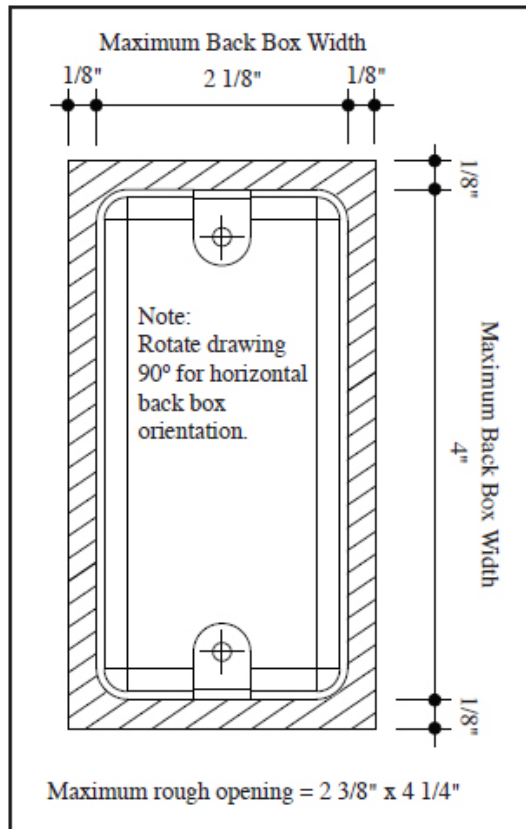

Figure 5
1. Verify that the dimensions of the back box opening do not exceed the maximum dimensions shown in Figure 5. If they do, the back box will not work with the WayGlo faceplate. Either replace the back box with one of the optional back boxes mentioned above or install a new back box that meets the size requirements.
2. Review Figure 5 and make sure that there are not excessive gaps around the back box. The finished wall cutout cannot be more than 1/8" on any side of the back box. If the
cutout is greater than that, be sure to patch the wall around the box until it meets the maximum opening dimension and maximum gap along the sides of the back box as shown in Figure 5.